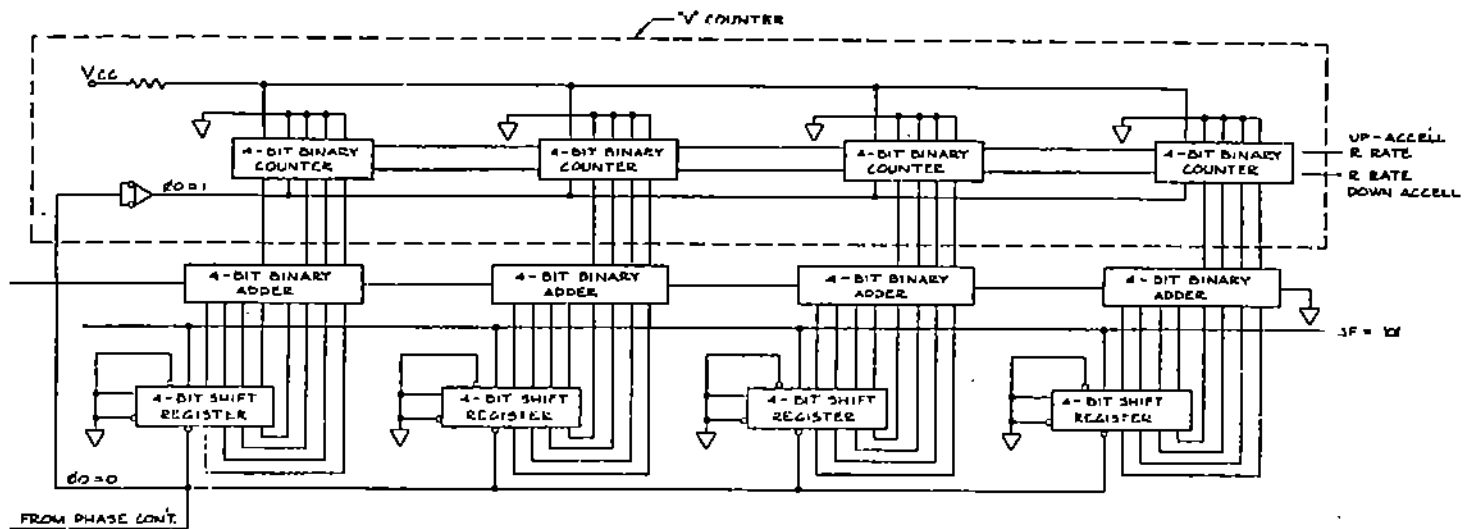

Figure 5-12. Motor Step-Pulse Generator
The motor Step Pulse Generator (Figure 5-12) is a rate multiplier that generates motor-step pulses (ΔP) by digital frequency division of the output of a velocity control counter. The velocity control counter clock input is the selectable frequency pulse train (R RATE) output of the Ramp Rate Generator (Paragraph 5-8). The counter counts up during acceleration (Phase 1), holds the attained count during constant speed (Phase 2), and counts down during deceleration (Phase 3). The ΔP frequency, or pulse-repetition rate, at the rate-multiplier output is proportional to the numerical value of the input (V) from the counter and ΔF .